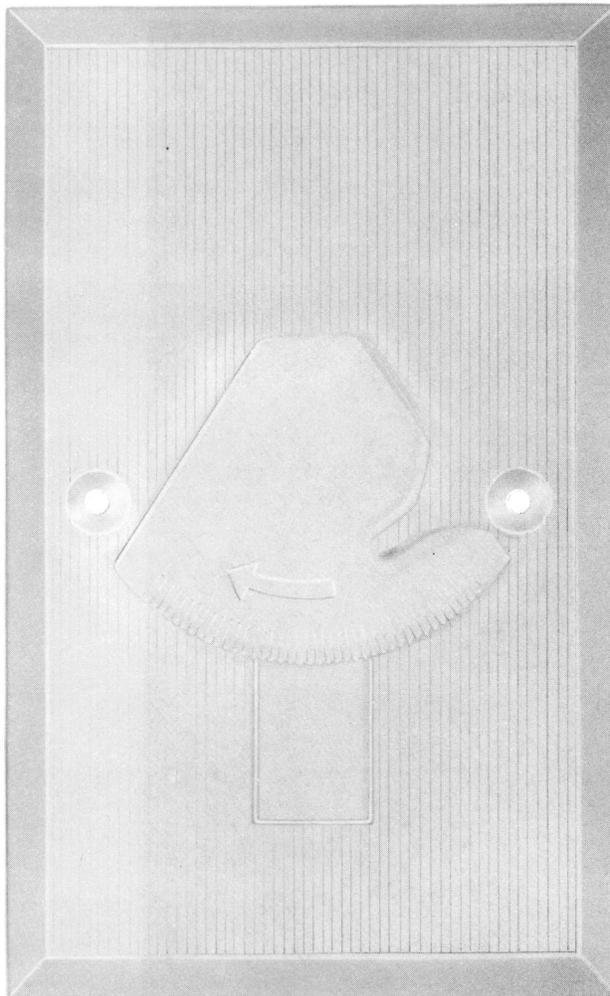

Fig. 5—625FS or 625H Connecting Block
- Block, Connecting, 625FS (Fig. 5)
- Block, Connecting, 625H (Fig. 5)
2.07 The **625FS** connecting block (Fig. 5) is similar to the 625F except it has a molded faceplate and a customer-operable spring-loaded cover which protects the interior telephone line contact springs from contamination. It is intended for use in areas subject to high humidity and condensation or locations exposed to spray painting, washing, or foreign matter.
2.08 The **625H** connecting block (Fig. 5) is constructed the same as the 625FS except for the modular jack which is a 645H2 jack. The tip and ring are provided on contacts 1 and 6 and will be designated GN and R. The 625H is intended for use in hospital critical care areas to provide connection by specially wired instruments to transmit electrocardiogram (EKG) signals or voice signals (using a TRIMLINE® telephone set with AD3H or
(c) **Spring cover-type:** With pivot point of spring-loaded cover up (Fig. 5 and 6).
Connect station wire to terminals on rear of connecting block as shown in Table A. Mount the block as shown in Fig. 5.